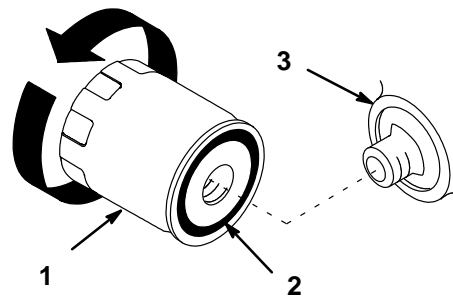

Figure 13
2. Remove the old filter and wipe the filter adapter (Fig. 13) gasket surface.
4. Apply a thin coat of new oil to the rubber gasket on the replacement filter (Fig. 13).
5. Install the replacement oil filter to the filter adapter. Turn the oil filter clockwise until the rubber gasket contacts the filter adapter, then tighten the filter an additional 1/2 turn (Fig. 13).